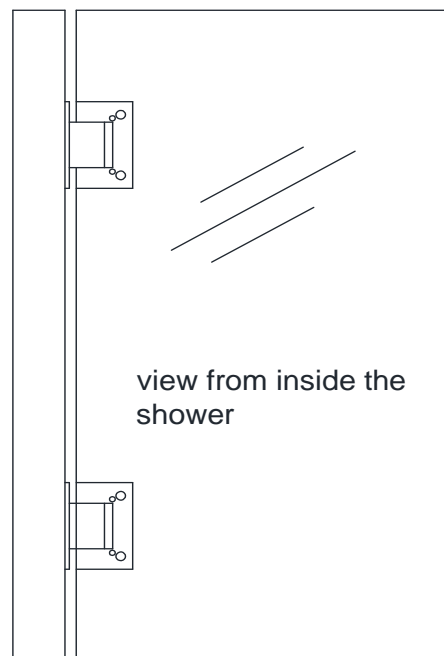

Fig 5a
**5a.** Make sure the door glass is plumb and the edge of the hinge is installed flush with the glass edge. Center the hinge in the glass notch and tighten the faceplate screws (**Fig 5a**). Be careful not to scratch the finished surfaces of the hinge during installation.